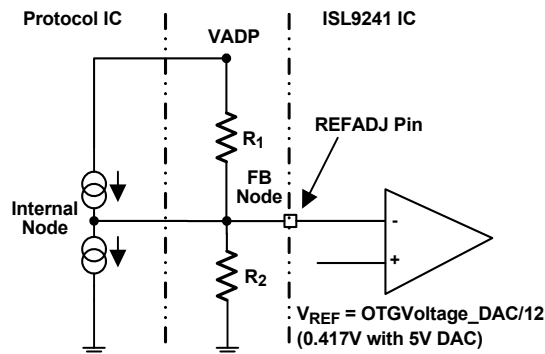

Figure 38. Simplified REFADJ Application
The schematic shown in Figure 38 on page 54 shows how the REFADJ pin is tied to the feedback (FB) node resistor divider node off the VADP node for a quick charge protocol IC. This schematic sets up the FB node to use the reference voltage of 0.417V from ISL9241, but the output on the VADP node can be set up to any voltage over the standard operating range using the R_1/R_2 ratio.